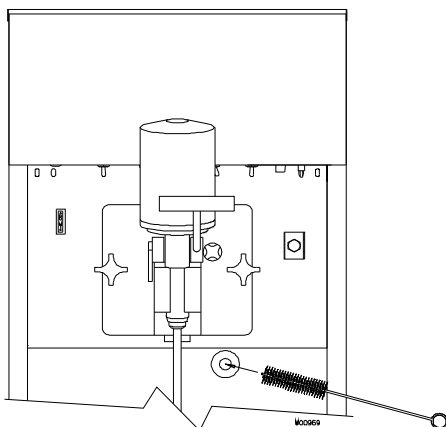

Figure 6-9 Clean inside of drain tube
b. the inside of the cylinders making certain to clean the back walls, and the inside of the drain tubes, see figure 6-9. Dip the brush in the dishwashing solution and force into the drain tube until it stops - repeat until clean.